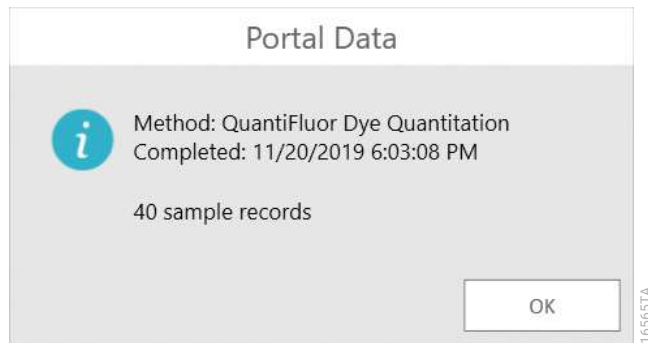

Figure 49. ‘Portal Data’ summary screen. The ‘Portal Data’ screen presents a summary of the data that was retrieved from the Portal software.
6. If the search is successful, a ‘Portal Data’ summary screen is shown indicating the method that was used to create the plate map, the date on which the method was completed and the number of samples on the plate (Figure 49). Tap the **OK** button to dismiss the ‘Portal Data’ screen